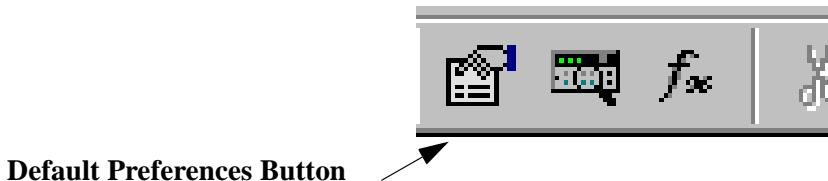

Figure 11-12. Default Preferences Button on Toolbar
1. From the main VEE menu, click **File** ⇒ **Default Preferences**, or press the **Default Preferences** button on the tool bar as shown in Figure 11-12.